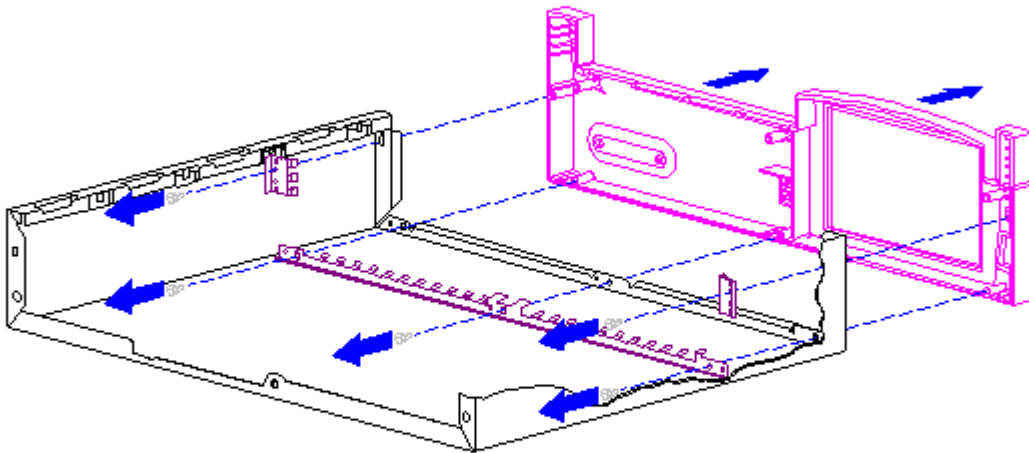

Figure 5-8. Removing the Front Bezel
3. Remove the five screws that secure the front bezel to the cover (Figure 5-8) and separate the bezel from the cover.